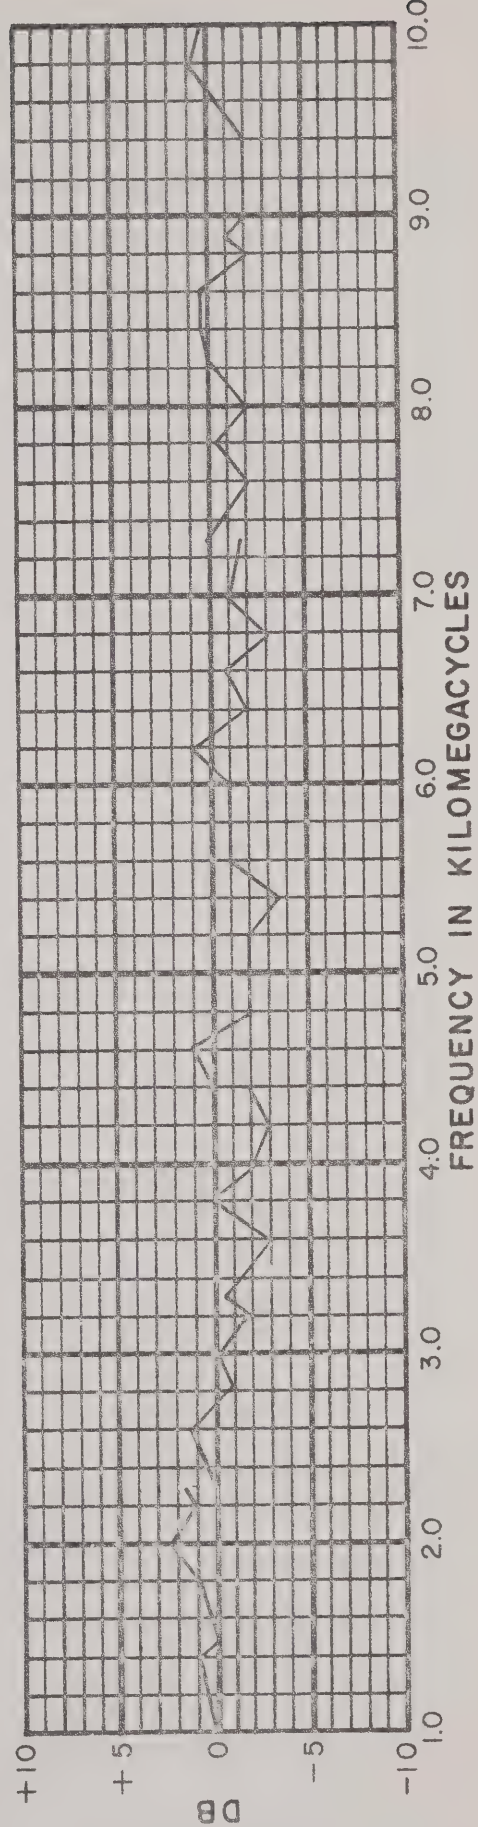

FIGURE 1-4, GAIN VARIATION VS FREQUENCY
- STEP 7. Connect the X-Y recorder cable to the NM-62B X-Y ANALOG output (32) and connect the X and Y plugs at the end of the cable into their respective receptacles on the X-Y recorder. Ground the X minus receptacle to the recorder chassis ground receptacle.
- STEP 8. On the NM-62B front panel, set the METER FUNCTION switch (24) to SLIDEBACK PEAK, turn the CAL control (11) to the extreme counterclockwise position and turn the PEAK control (9) to move the meter needle to zero. Turn the manual tuning knob (1) of the tuner in use to bring the tuner to the low frequency end of the band.
- STEP 10. Turn the PEAK control (9) on the NM-62B to move the meter to full scale. Adjust the "Zero" control to move the pen to full scale in the Y axis. If the paper provided by STODDART is used, full scale will be the 40 db/100 microvolt mark. Using the manual tuning knob (1), bring the tuner in use to the high frequency end of the band. Adjust the "Var" control to move the pen to full scale in the X axis. If the paper provided by STODDART is used, full scale will be the highest frequency mark.
- STEP 13. Set the NM-62B TUNING MODE switch (16) to either SINGLE SCAN or SECTOR SCAN as desired.
- STEP 15. With the SCAN RATE control (15) on the NM-62B adjust the scanning rate of the tuner in use to the desired rate.
For absolute power level of a signal at a particular frequency, refer to Figure 1-4 for the variation in gain with frequency of the NM-62B. If greater frequency resolution is desired the NM-62B bandwidth may be changed to 0.5 Mc with the BANDWIDTH switch (18).